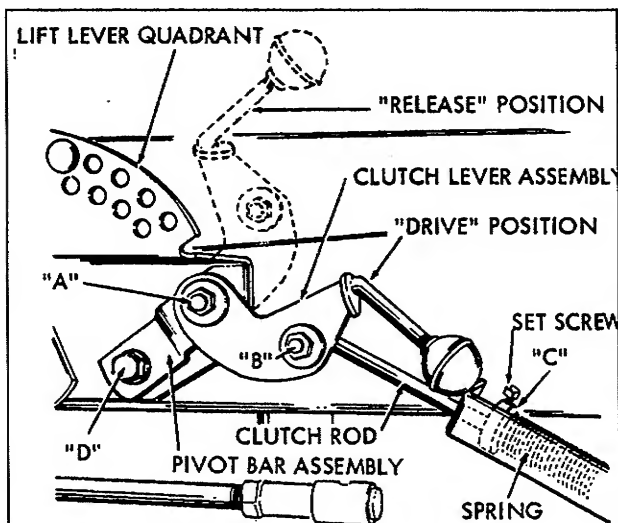

Figure 19 (Typical Some models use different style lever.)
4. Remove hex cap screw "D" from frame of tractor and mount bracket in place on lift lever quadrant. See Figure 19. Position the pivot bar assembly flush against bottom of lift quadrant and reinstall hex cap screw and tighten securely. Check alignment of drive pulley on bevel gear shaft, driven pulley of power take-off, and idler pulley, and adjust driving pulley if necessary.
Operation of the Power Take -Off is controlled by movement of the Clutch Lever Assembly. See Figure 19. When the Clutch Lever is in the forward raised position, the Clutch Rod releases the tension holding the Idler Pulley against the Drive Belt, and power will not be transmitted to the driven pulley of the Power Take-Off Assembly. When the Clutch Lever is in the back, depressed position, the Clutch Rod applies tension to the Idler Pulley and as the Idler Pulley takes up the slack in the Drive Belt, power is transmitted from the Drive Pulley on Bevel Gear Box Shaft to the driven pulley of the Power Take-Off. Figure 19 shows Clutch Lever in Drive position.
At points "A" and "B" of Figure 19, check tightness of Hex. Nut to be sure that Clutch Lever Assembly and Clutch Rod are free to pivot without binding.
Place Clutch Lever in 'Drive' position and observe clearance between collar "C" (Figure 19) and end of bracket. When implement is attached to tractor, this clearance should normally be approximately 3/4"; at this setting the Idler Pulley should be snugly against the Drive Belt. If additional tension is required, release Clutch Lever and loosen Set Screw on Collar and Slide Collar farther back on Clutch Rod. Retighten